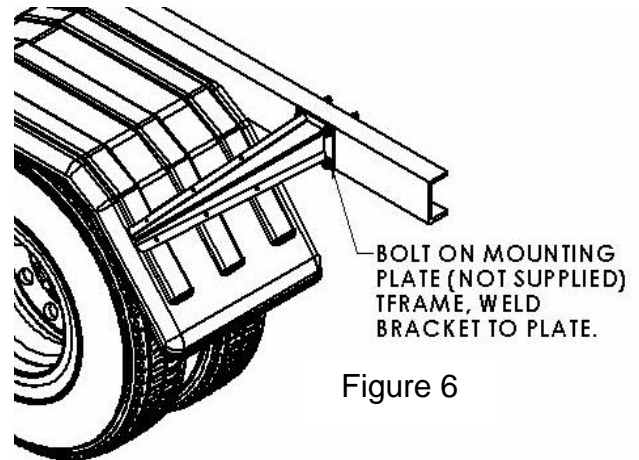

Figure 6
B. It is possible to bolt a plate (not supplied) to the frame and weld the brackets to that plate (Figure 6). Another option is to weld the bracket directly to the frame.